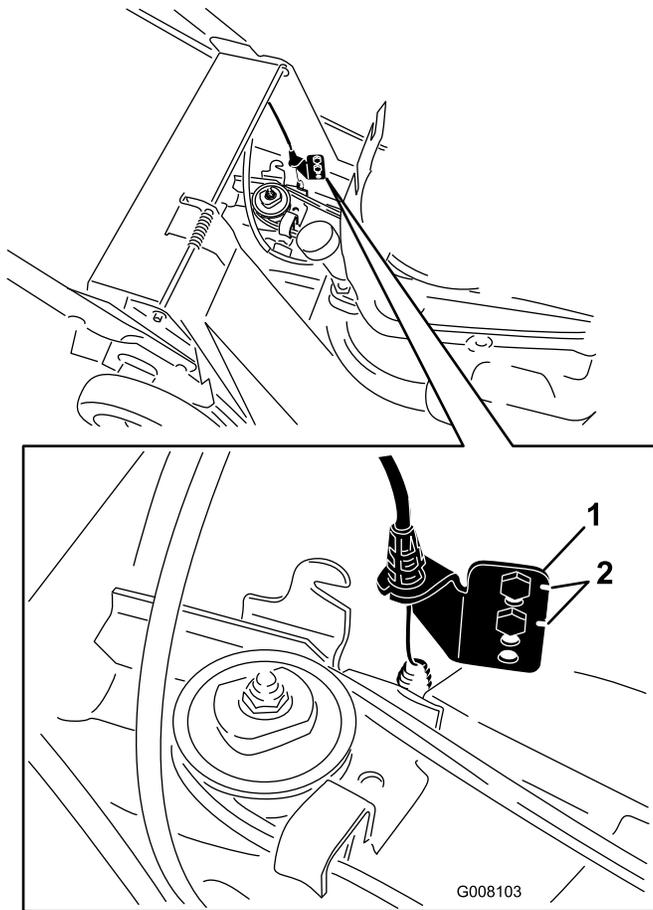

Figure 30
7. Remove the screws from the lower anchor bracket (Figure 30).
Note: The lower belt has been removed in Figure 30 for the purpose for clarity. It is not necessary to remove the lower belt cover to perform this procedure.
8. Move the lower anchor bracket up one hole (Figure 30).
Note: When you install a new belt, move the lower anchor bracket to its original factory position, which is indicated by the notches next to the holes in the bracket (Figure 30).